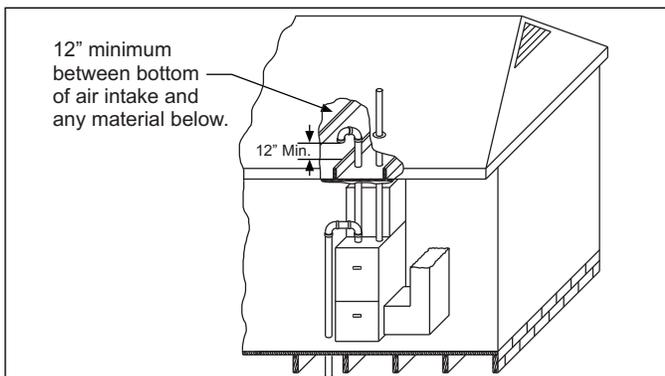

FIGURE 36: Attic and Crawl Space Combustion Air Termination
3. **VENTILATED COMBUSTION AIR:** Combustion air is supplied through a PVC or ABS pipe that is connected to the PVC coupling attached to the burner box and is terminated in a ventilated attic or crawl space. The combustion air and the vent pipes are not terminated in the same atmospheric zone. Refer to Figure 36 for attic and crawl space termination. Only the combustion air intake may terminate in the attic. The vent must terminate outside.
Refer to Figure 36 for required attic termination for the combustion air intake pipe. For attic termination, use two 90° elbows with the open end in a downward position. Be sure to maintain 12" (30.5 cm) clearance above any insulation, flooring or other material.